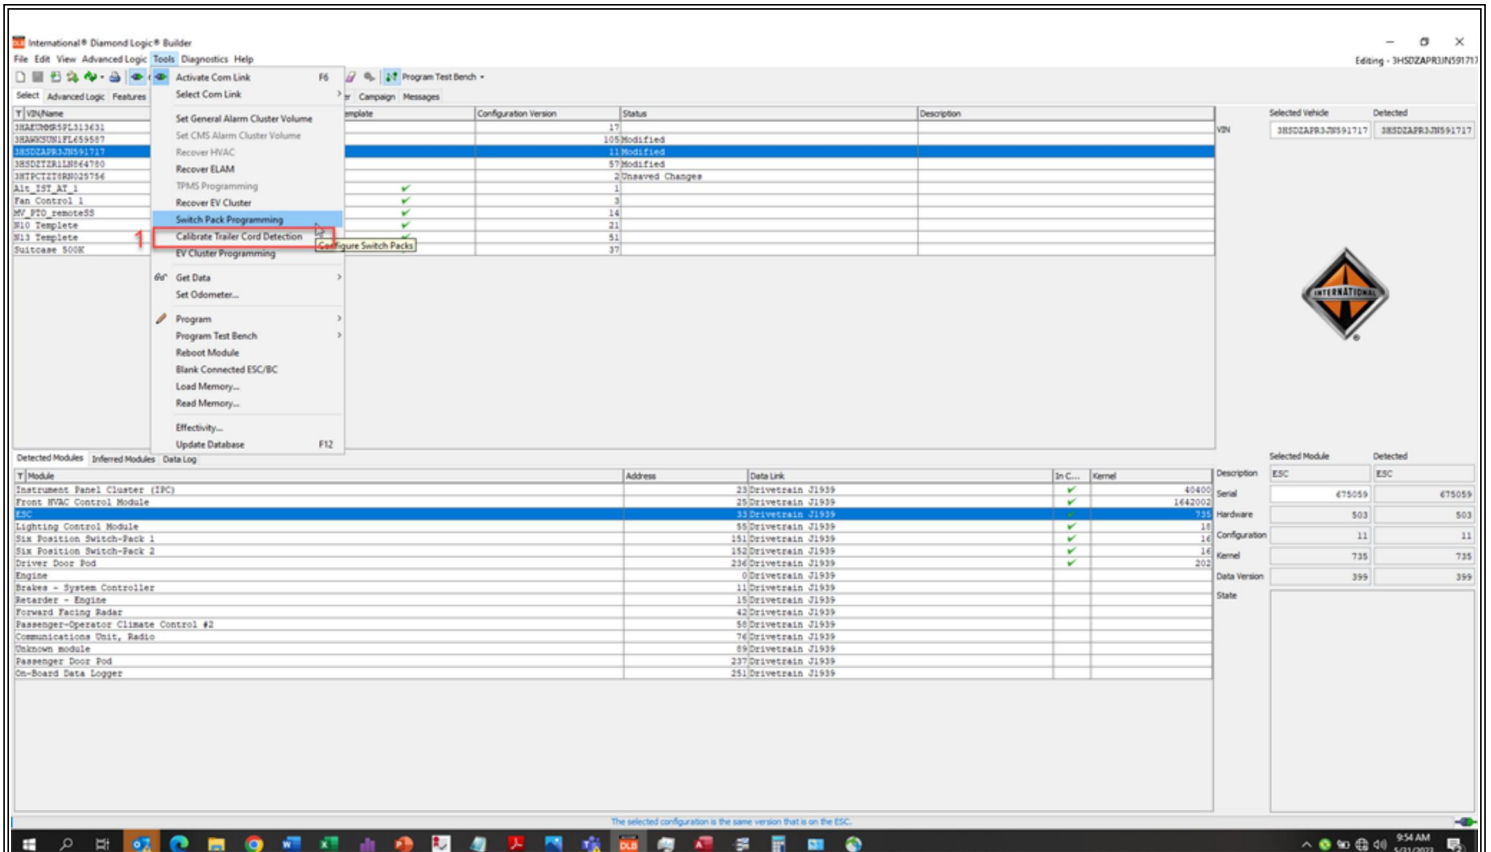

Figure 3: Select Calibrate Trailer Cord Detection In Tools Menu
5. Select Calibrate Trailer Cord Detection in the tools menu (Figure 3, Item 1). If Calibrate Trailer Cord Detection is not shown or grayed out in the tools menu then feature 597017 is not installed on the vehicle you are working on and this procedure and iKnow does not apply.